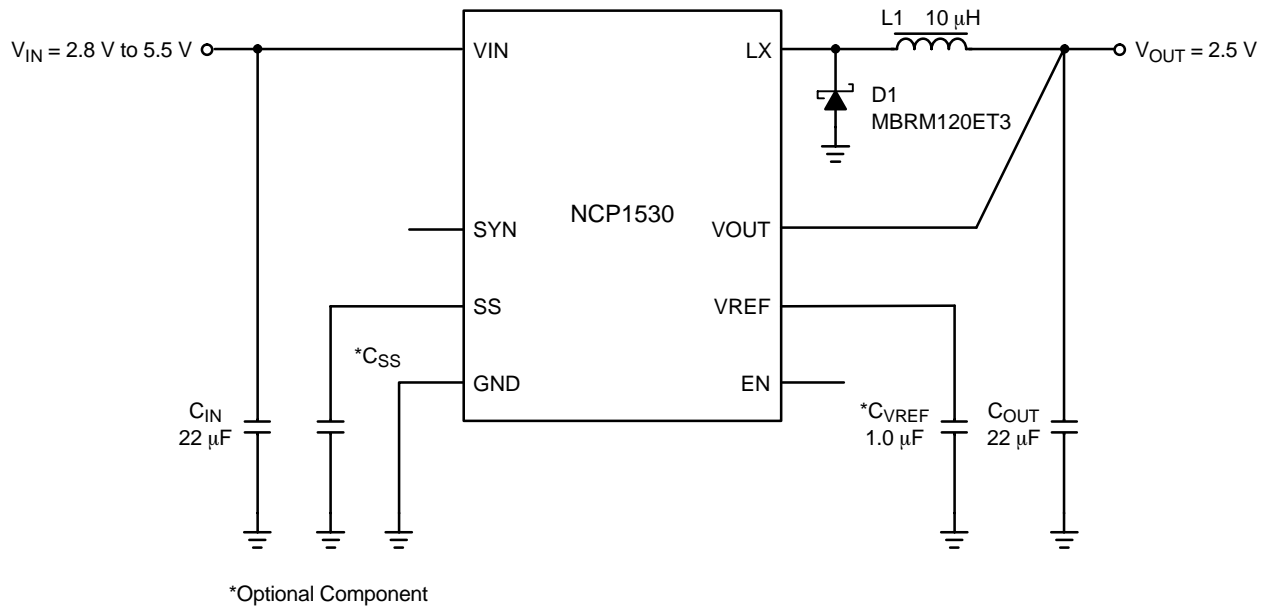

Figure 1. Typical Step-Down Converter Application
**ELECTRICAL CHARACTERISTICS** ( $V_{IN} = 1.2 \times V_R$ ,  $T_A = 25^\circ\text{C}$  for typical value,  $-40^\circ\text{C} \leq T_A \leq 85^\circ\text{C}$  for min/max values unless otherwise noted.) \* $V_R$  is the factory-programmed output voltage setting. Test circuit, refer to Figure 1.